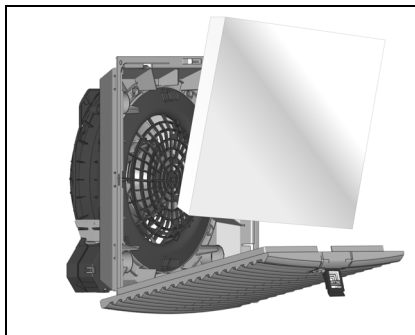

Fig. 7: Install the filter mat
- Insert the filter mat into the louvred grille as shown in fig. 7 and push the louvred grille back onto the enclosure until it snaps audibly into position.